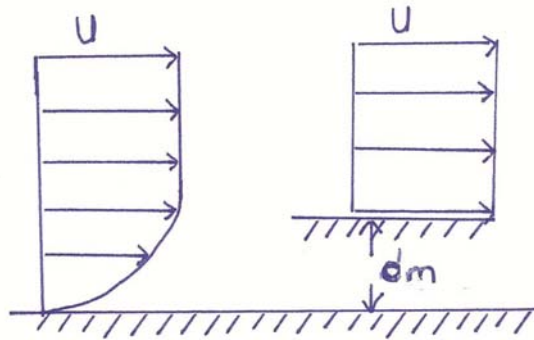

Figure 9.3. Boundary layer momentum thickness
- **The boundary layer momentum thickness:** It can be defined as the distance by which the solid boundary would have to be displaced to maintain the same momentum transport rate at the actual mass flow rate in an imaginary frictionless flow. The momentum thickness concept is illustrated in Figure 9.3.
- **The boundary layer energy thickness:** It can be defined as the distance by which the solid boundary would have to be displaced to maintain the same energy transport rate at the actual mass flow rate in an imaginary frictionless flow. The energy thickness concept is illustrated in Figure 9.3.